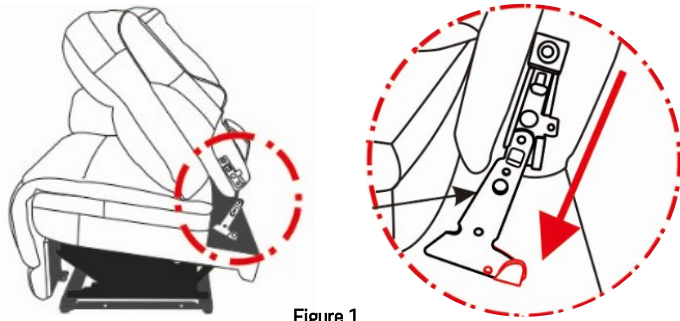

Figure 1
2. Connect the seat backs to the bases of each module by sliding the metal receivers on the seat back into the metal posts on the base. Ensure the correct seat back has been selected and that both sides align before pushing down firmly into place (Figure 1).